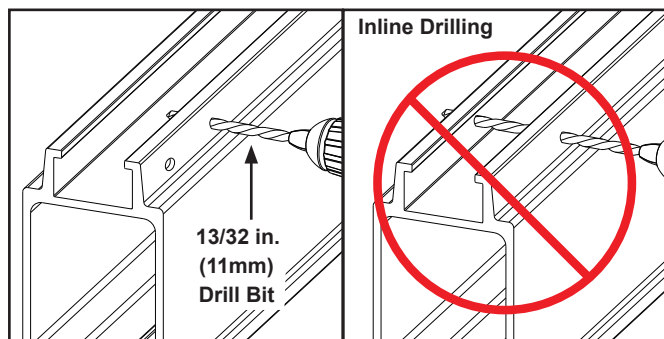

Figure 3-46
- Step 2. Drill two (2) holes using 13/32 in.(11 mm) drill bit. Do not attempt to drill holes in-line. See Figure 3-46.